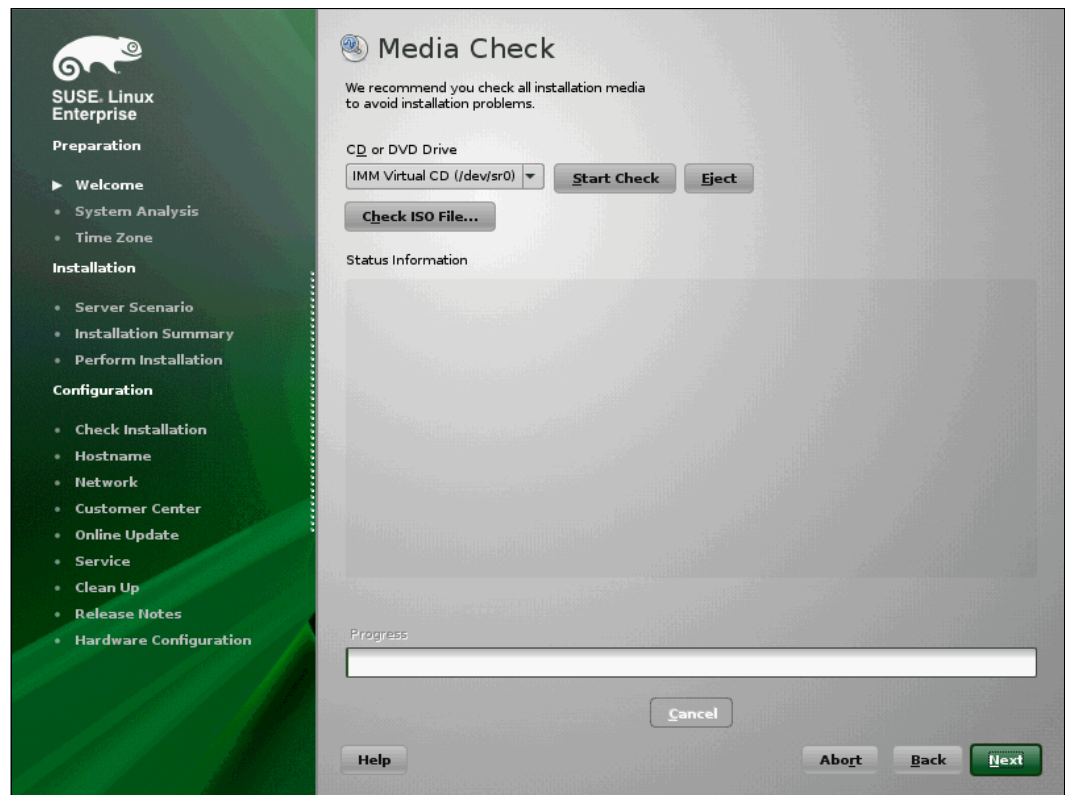

Figure 9-41 Media check panel
8. In the Media Check installation window (Figure 9-41), click **next**.